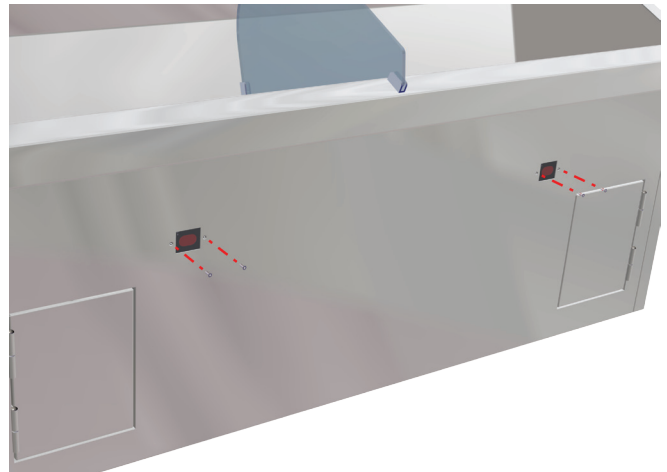

Fig. 16: Re-attach IR sensors to base front
14. Re-attach the two IR sensors to the sink base front with the flathead screws (Fig. 16).